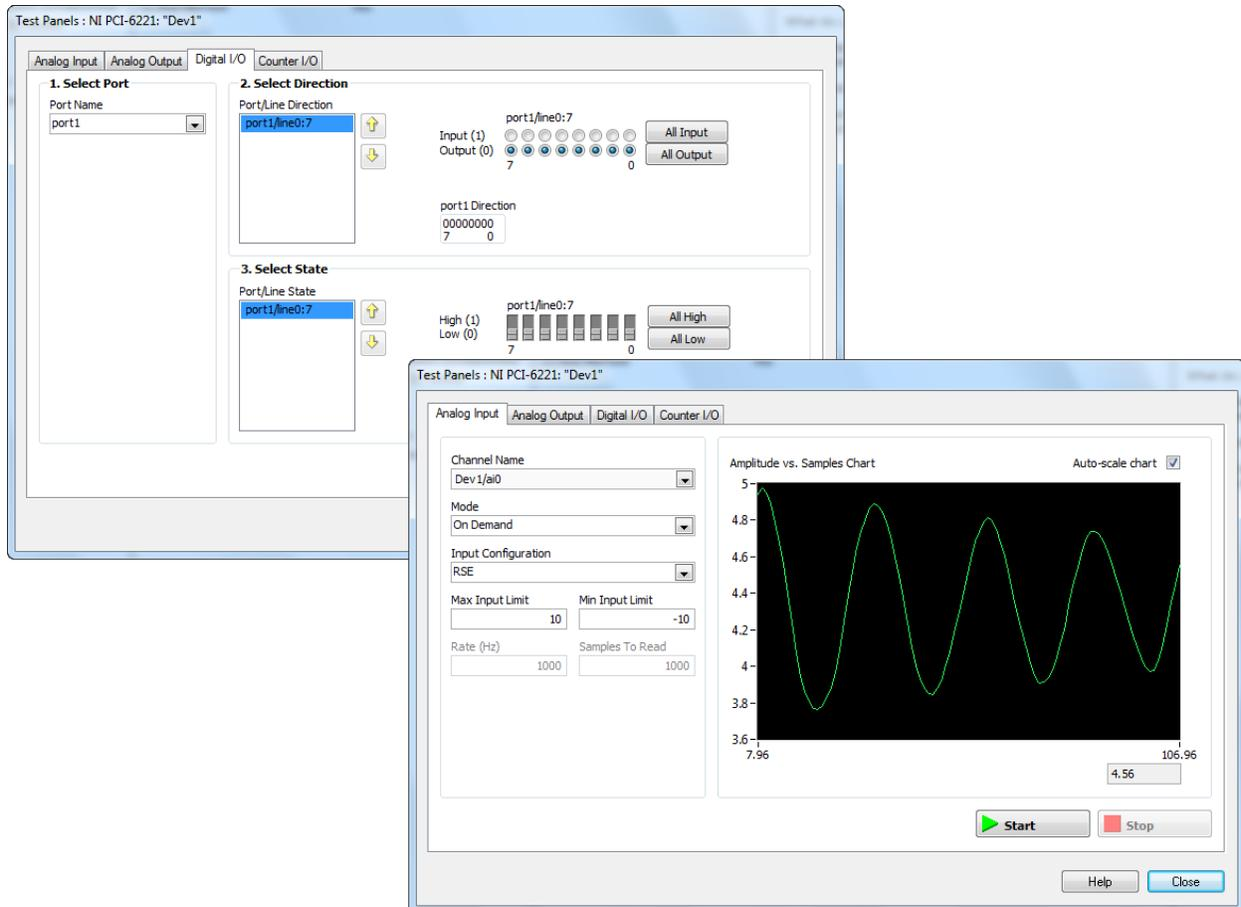

Figure 2.1; Test Panels; Digital IO and Analogue Input in Measurement & Automation program
- Open *Test Panels*. First check the LED board. Open the *Digital I/O* tab. The LED board is on port1, so set this in section 1 of the Digital I/O tab (figure 2.1, left)
- Press Start – this starts the computer talking to the port. In part 3 of this window, try changing some of the switches (next to the all-high and all-low buttons, see figure 2.1).
- Firstly, check the crocodile clips. These are on Dev1/ai1, with an Input Configuration of RSE and input limits of ± 10 (figure 2.1, right).
- The arm position reading is on Dev1/ai0 (RSE, ± 10). Check the settings, press Start, and gently nudge the arm. The graph should update as in figure 2.1, right.